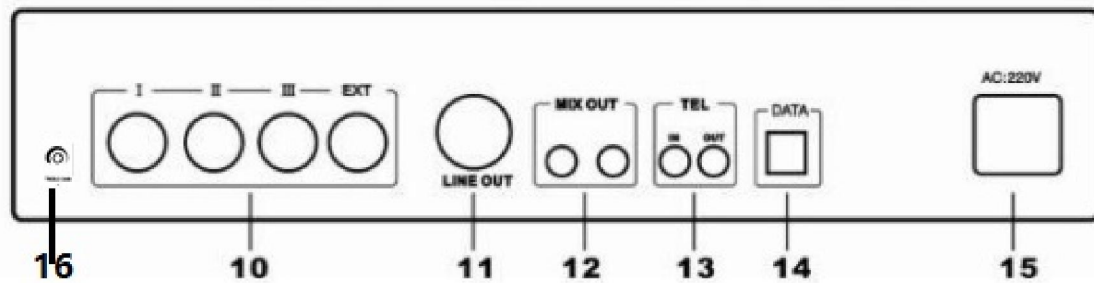

Fig.2
Connect the unit to 230 V AC 50/60 Hz mains . Use the connection cables provided to connect the daisy-chained microphone units to the 4 **Delegates (figure 2, ref. 10)** as shown in **figure 4**, paying attention not to connect more than 30 microphones units to each line and no more than 64 microphone units altogether. The configuration shown in figure 4 cannot allow more than 30 microphone units on each loop. In any case, the maximum limit of 64 microphone units cannot be exceeded. The system can host more than one Chairman microphone. They can be inserted at any position on the chain.
- ① - Prepare conference controller H-3300, chairman microphone, delegate microphone, main extension cable and microphone branch cable (Y type)